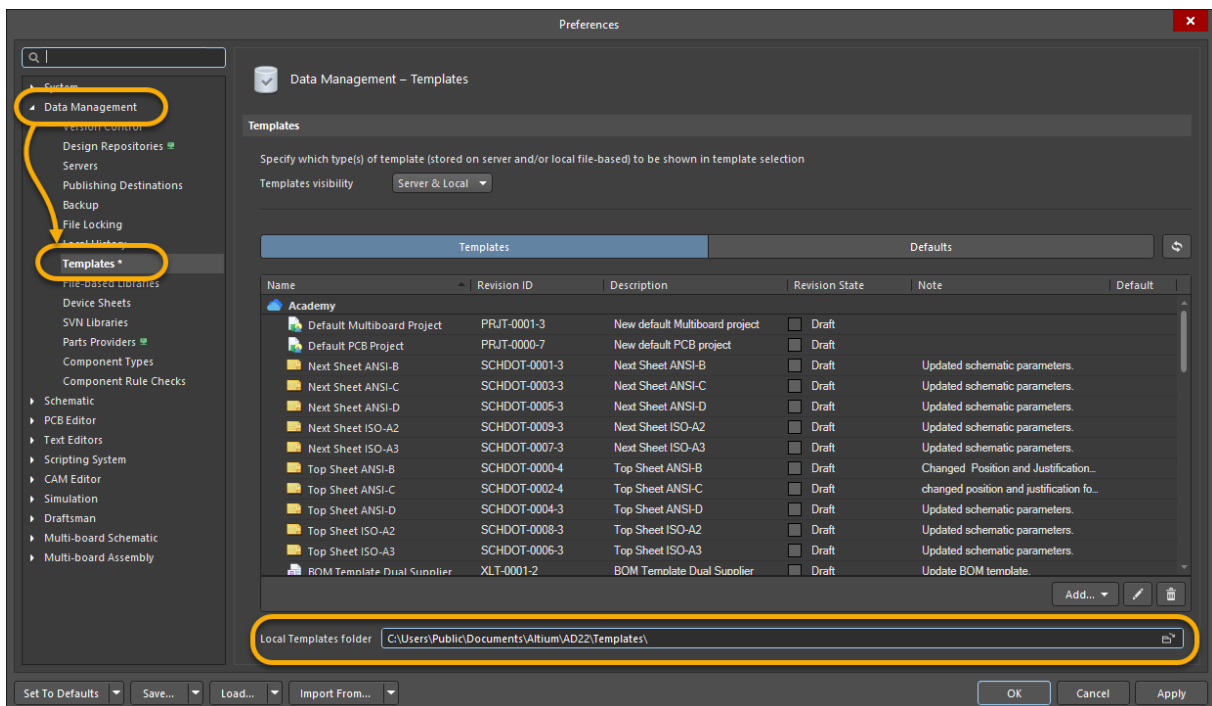

Figure 2. Template file location
7. From the *Data Management* section, open the *Templates* page as shown in Figure 2. This is the location in which Altium Designer stores all of the default templates included with the installation.
8. At the bottom of this window, you'll find the *Local Templates folder* location, as highlighted in Figure 2.